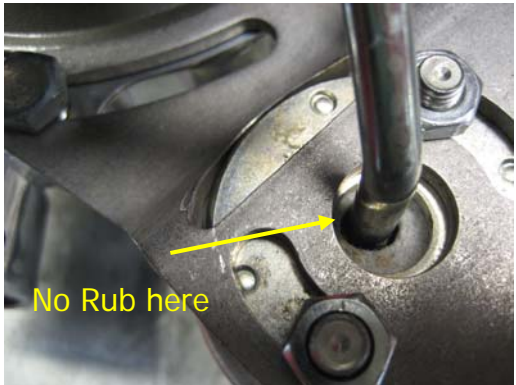

Fig.6
- Test fit the turbos to the manifolds to determine the proper compressor and turbine orientation. Orientation can be adjusted by loosening the clamp bolts that hold the compressor and turbine housings to the center housing and rotating the housing to the desired location. The center housing oil drain must point down. Use the supplied adjustable actuator brackets and rod ends to position the actuator so that the actuator rod lines up with the wastegate crank and does not rub the lower actuator housing during operation (Fig 6).